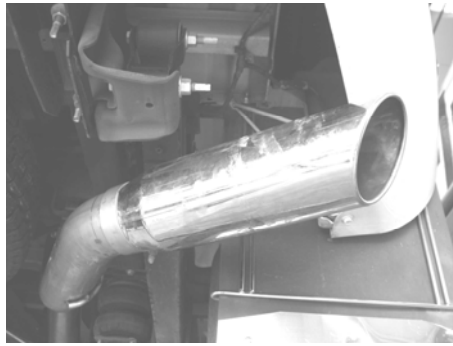

Figure 7
5. Place a clamp over the expanded end of tip and set it into position as shown in figure 7. **DO NOT** tighten the clamps.